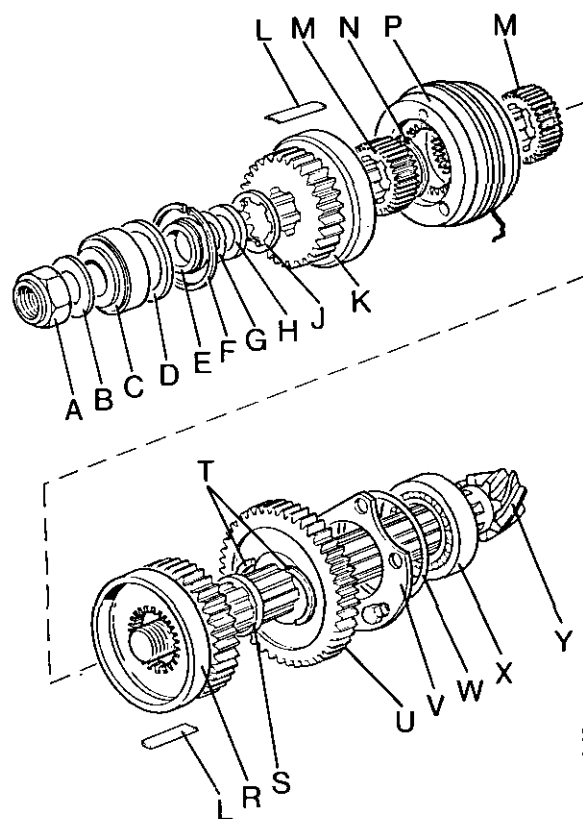

FIGURE 81. BEVEL PINION SHAFT ASSEMBLY
20. Remove the distance pieces, shims G and splined washer J, from the front of the pinion shaft. Keep safe, the shims are important when assembling. See Figure 81.